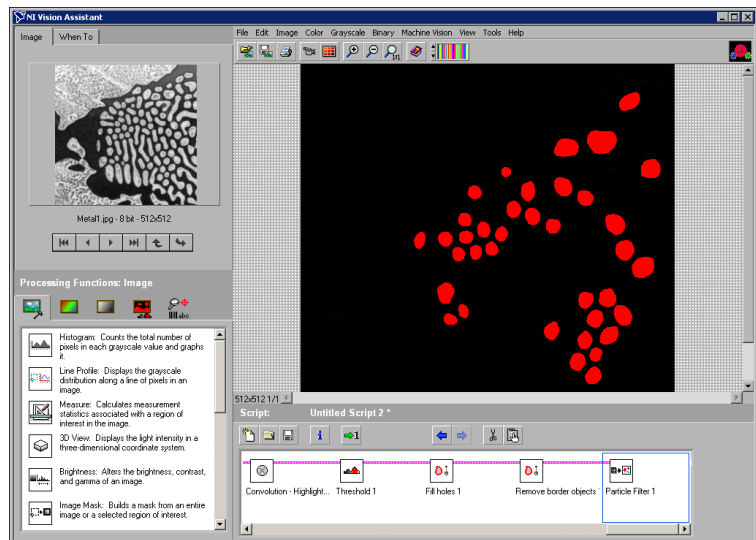

Figure 3-5. Isolating Circular Particles
5. Click **OK** to add this step to the script. The image now contains only circular particles, as shown in Figure 3-5.